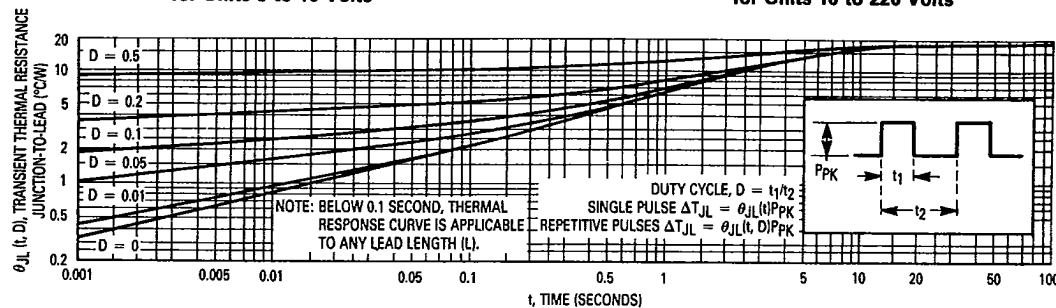
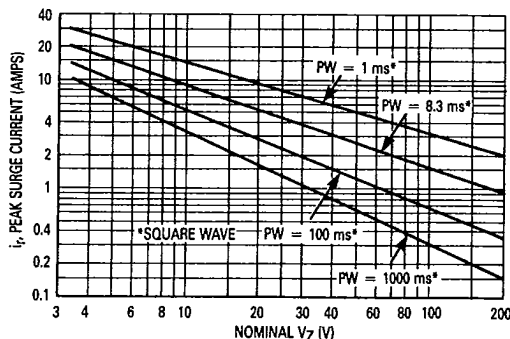
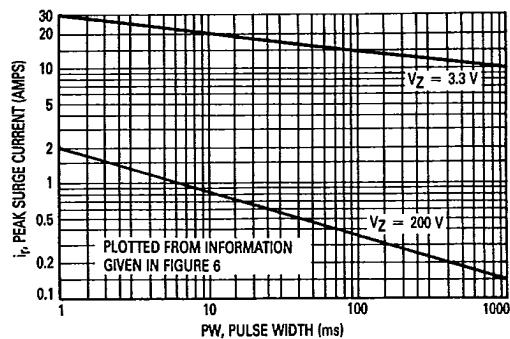

Figure 4. Typical Thermal Response
Figure 6. Maximum Non-Repetitive Surge Current versus Nominal Zener Voltage
Figure 7. Peak Surge Current versus Pulse Width
- (1) TOLERANCE AND VOLTAGE DESIGNATION — The JEDEC type numbers shown indicate a tolerance of $\pm 10\%$ with guaranteed limits on only V_Z , I_R , I_F , and V_F as shown in the electrical characteristics table. Units with guaranteed limits on all seven parameters are indicated by suffix "A" for $\pm 10\%$ tolerance and suffix "B" for $\pm 5\%$, C for $\pm 2\%$ and D for $\pm 1\%$.
- (2) ZENER VOLTAGE (V_Z) AND IMPEDANCE (Z_{ZT} & Z_{ZK}) — Test conditions for Zener voltage and impedance are as follows: I_Z is applied 40 ± 10 ms prior to reading. Mounting contacts are located $3/8"$ to $1/2"$ from the inside edge of mounting clips to the body of the diode. ($T_A = 25^\circ\text{C} \pm 2^\circ\text{C}$).
- (3) SURGE CURRENT (I_{RS}) — Surge current is specified as the maximum allowable peak, non-recurrent square-wave current with a pulse width, PW, of 8.3 ms. The data given in Figure 6 may be used to find the maximum surge current for a square wave of any pulse width between 1 ms and 1000 ms by plotting the applicable points on logarithmic paper. Examples of this, using the 3.3 V and 200 V zeners, are shown in Figure 7. Mounting contact located as specified in Note 3. ($T_A = 25^\circ\text{C} \pm 2^\circ\text{C}$).
- (4) VOLTAGE REGULATION (ΔV_Z) — Test conditions for voltage regulation are as follows: V_Z measurements are made at 10% and then at 50% of the I_Z max value listed in the electrical characteristics table. The test currents are the same for the 5% and 10% tolerance devices. The test current time duration for each V_Z measurement is 40 ± 10 ms. ($T_A = 25^\circ\text{C} \pm 2^\circ\text{C}$). Mounting contact located as specified in Note 2.
- (5) MAXIMUM REGULATOR CURRENT (I_{ZM}) — The maximum current shown is based on the maximum voltage of a 5% type unit, therefore, it applies only to the B-suffix device. The actual I_{ZM} for any device may not exceed the value of 5 watts divided by the actual V_Z of the device. $T_L = 75^\circ\text{C}$ at $3/8"$ maximum from the device body.
Data of Figure 4 should not be used to compute surge capability. Surge limitations are given in Figure 6. They are lower than would be expected by considering only junction temperature, as current crowding effects cause
temperatures to be extremely high in small spots resulting in device degradation should the limits of Figure 6 be exceeded.